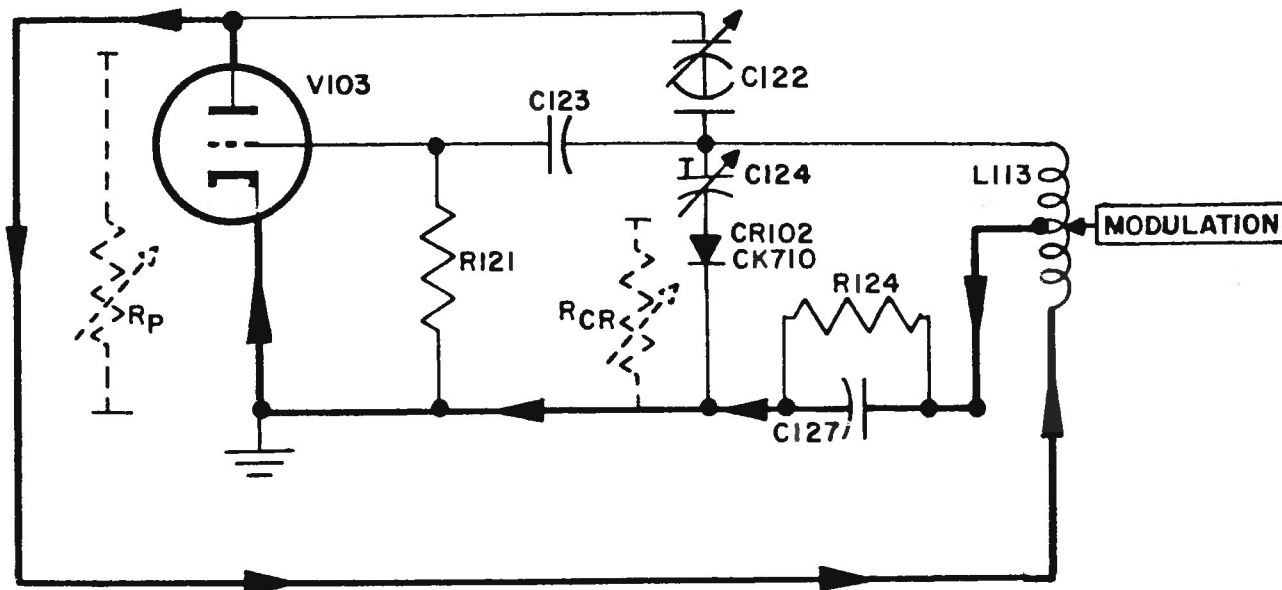

Figure 4-3. Equivalent Circuit of RF Oscillator With Frequency Modulation Compensator.
c. FREQUENCY MODULATION COMPENSATOR. – Although of no concern in cw operation, parasitic frequency modulation may occur when the carrier oscillator is amplitude modulated. The spurious fm increases the band width of the modulated signal and is undesirable for aligning narrow band receivers. The reason for parasitic fm is best explained in terms of the variable reactance introduced by the modulating signal across the oscillator tank. When the audio modulating voltage is applied to oscillator tank coil L113 (figure 4-2.), the instantaneous plate resistance R_p of oscillator V103 is varied accordingly. See figure 4-3 for the equivalent circuit. The only change has been in the arrangement on the paper. The circuit is the same as figure 4-2. The variation in instantaneous plate resistance is shown as a variable resistor R_p . At the same time the second half of the tank coil is across the grid circuit. Across the grid coil is the FM Compensator, consisting of diode CR102 and a small factory-set trimmer, C124, which allows some of the tank energy to pass through the diode. The diode is a rectifier, thus acting as variable resistor in the grid circuit to offset the variable resistance R_p in the plate circuit. Since grid and plate ends